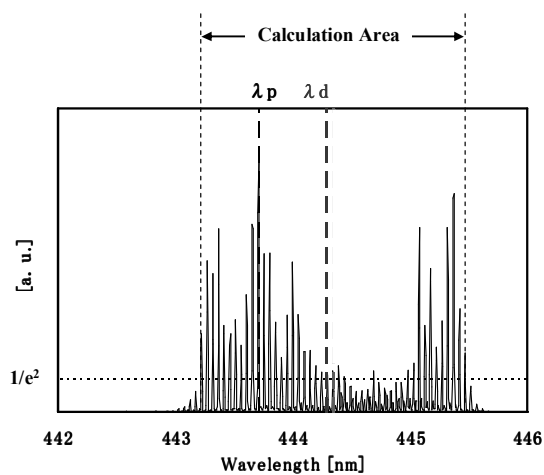

Fig.1 Definition of Dominant Wavelength
*3) λ_d is defined from trichromatic coordinate (x, y) values on chromaticity diagram calculated from the peak intensity higher than $1/e^2$ shown in Fig.1.